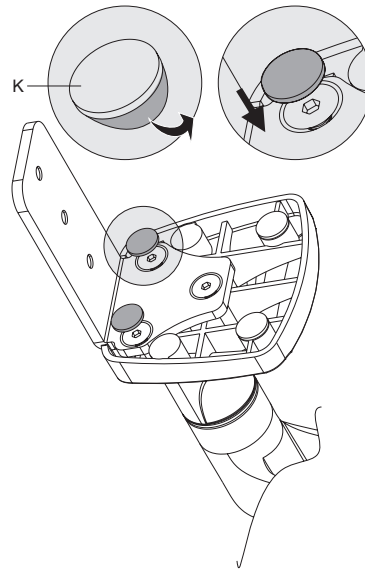

Figure 6
3. Install the Protective Pad (K) to cover the bolt, see Figure 6.